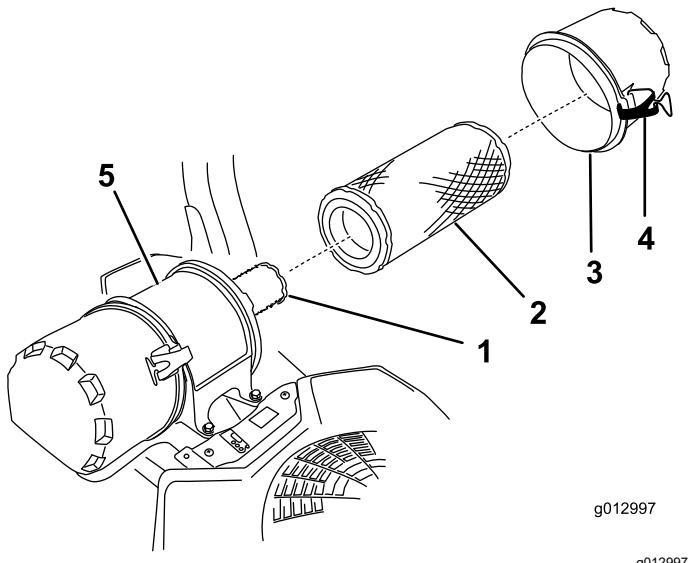

Figure 63
- 6. Release the latches on the air cleaner and pull the air-cleaner cover off the air-cleaner body (Figure 63).
- 8. Gently slide the primary filter out of the air-cleaner body (Figure 63).
2. If you are replacing the safety filter, carefully slide it into the filter body (Figure 63).
3. Carefully slide the primary filter over the safety filter (Figure 63).
4. Install the air-cleaner cover and secure the latches (Figure 63).